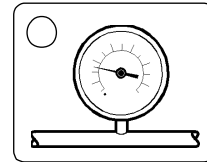

Figure 11-1. Glue-Pressure-Edit-Menu Icon Button
1. Press the glue-pressure-edit menu icon button (Figure 11-1). The glue-pressure-edit menu displays (Figure 11-2). The glue-pressure-edit menu contains the glue-pressure table.